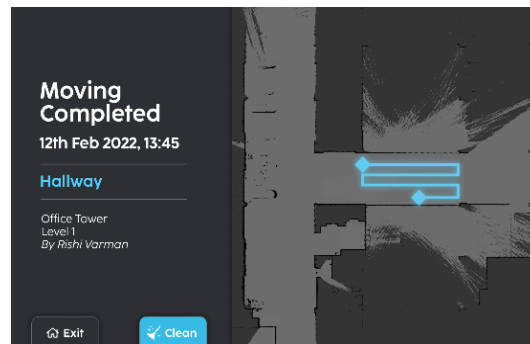

FIGURE 9-9
5. Upon completion of the mission the app will display a completion page (Fig. 9-9).